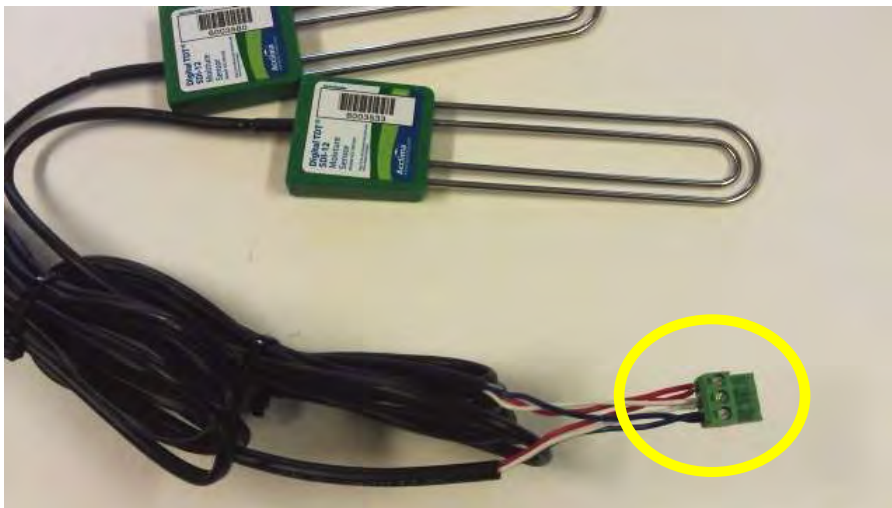

Figure 11 – Basic wiring diagram
- One to two sensors can easily be wired directly into the green terminal block as shown in figure 11. To do this, insert all red wires into the topmost portion of the terminal block and tighten the screw to secure them in place. Repeat the procedure for the white wires in the middle portion of the block and the blue wires in the bottom portion of the block. When the block is connected to the DataSnap, the location of the colored wires must match the colors on the DataSnap.